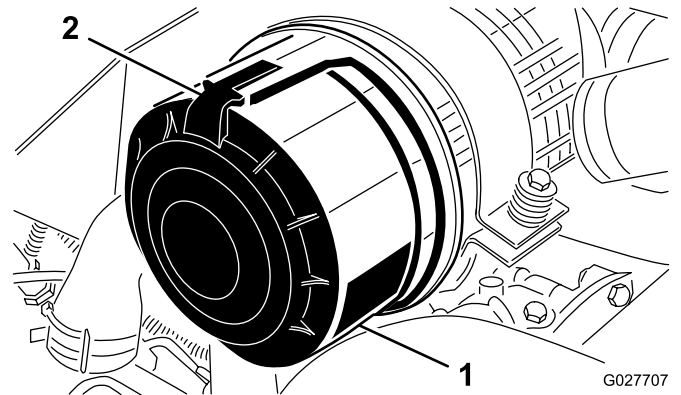

Figure 62
1. Release the latches that secure the air cleaner cover to the air cleaner body (Figure 62).